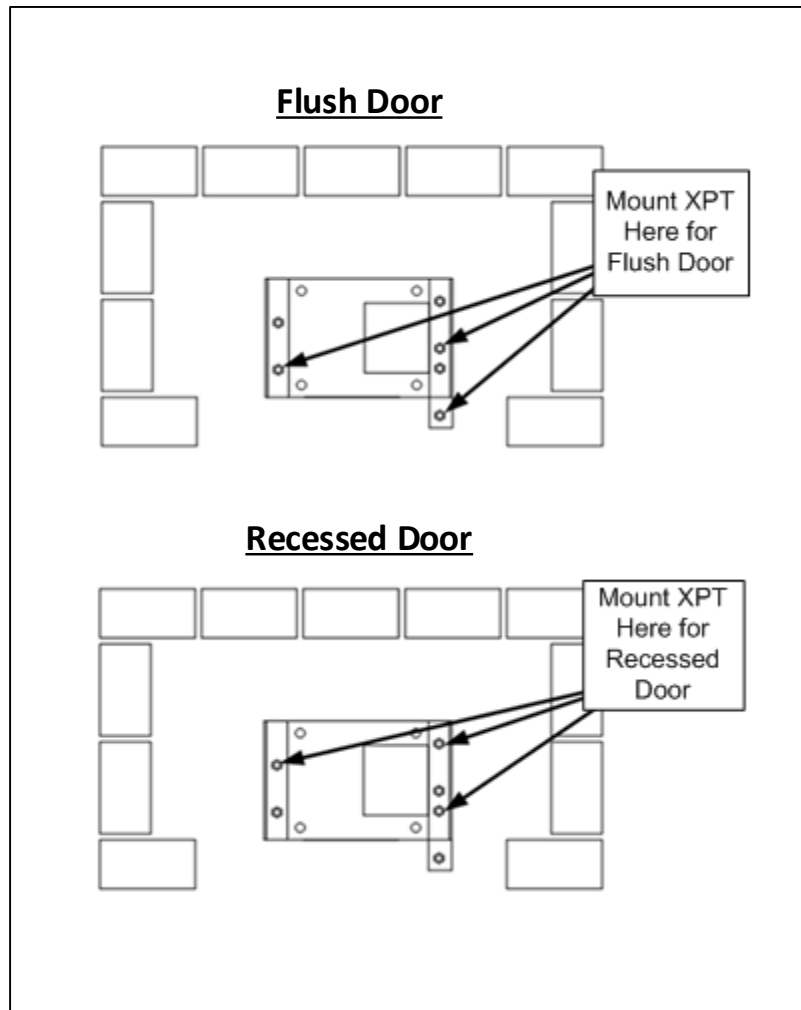

Figure 19. Flush Door and Recessed Door Mounting Options
7. Mount the XPT unit to the adaptor plate by inserting and tightening two bolts through mounting holes on the right side of the XPT case, for either a flush or recessed door configuration (see Figure 19 below).